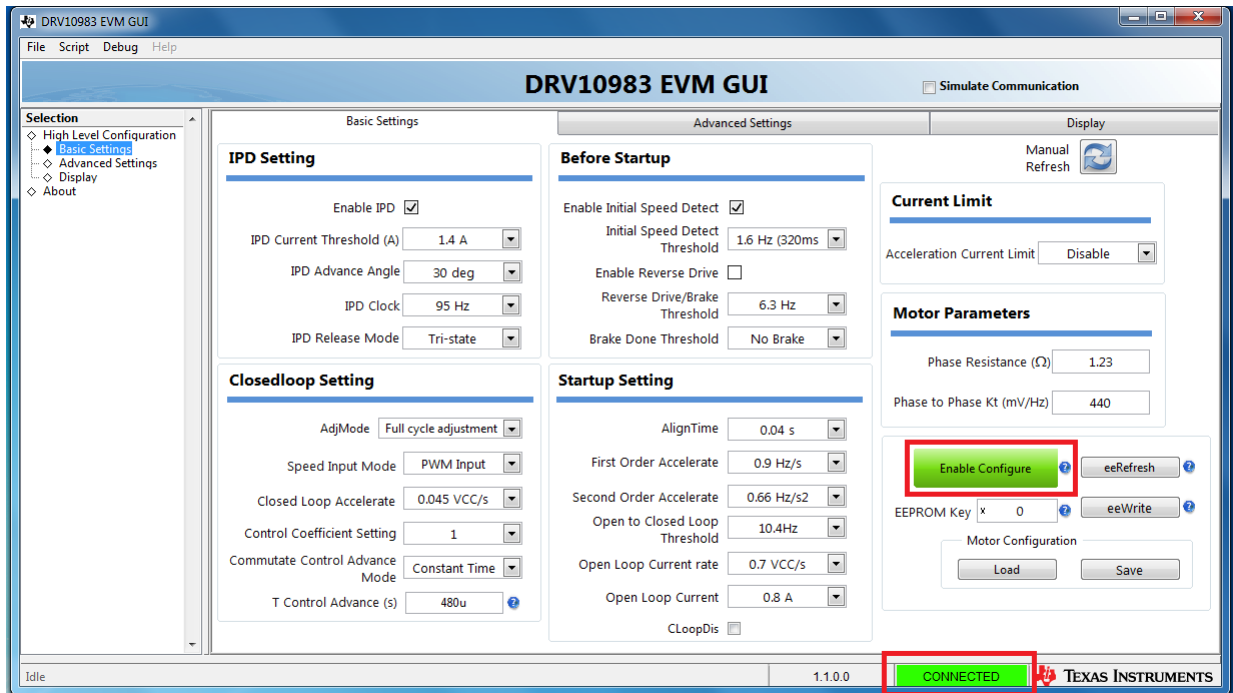

Figure 7. Enable Configure
- CONNECTED should turn green, indicating that the GUI is communicating with the device. Select Enable Configure to turn the button to green as well (see Figure 7).